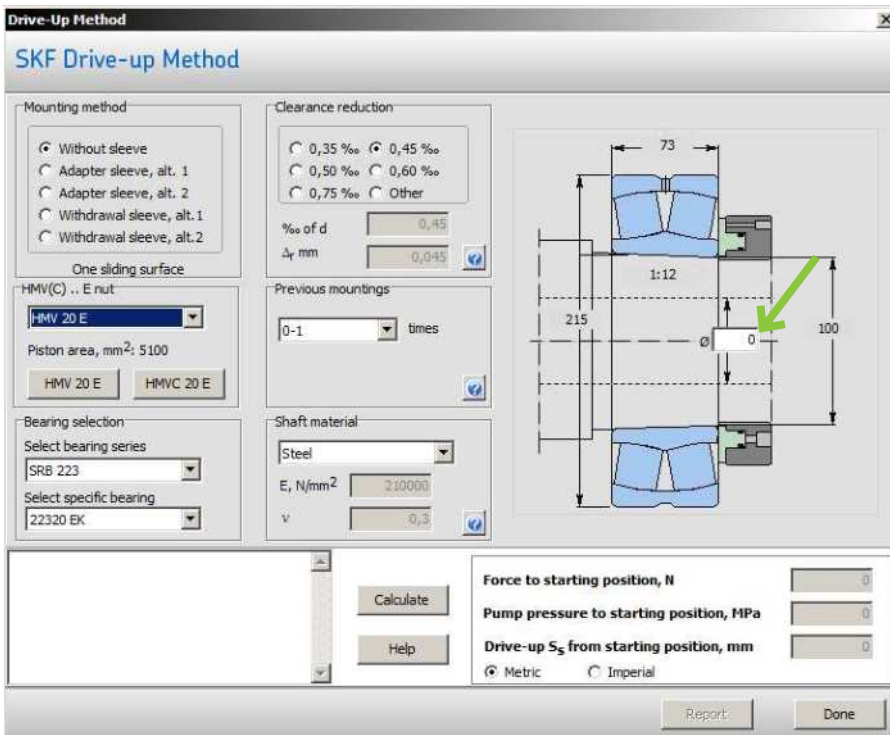
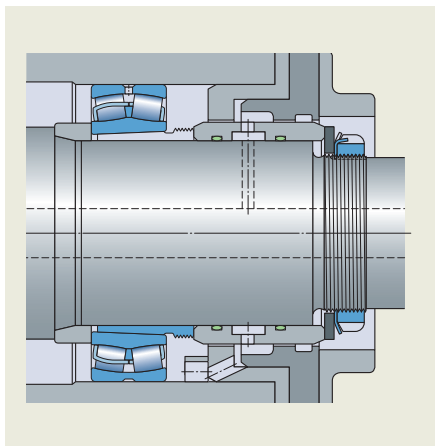

Fig 6: The field in the software to enter the shaft bore diameter
Fig 12: Hydraulic nut to push the withdrawal sleeve will be of much smaller size than the one proposed by default in the SKF Drive-up Method program
If the shaft has a bore, enter the bore diameter in the box indicated by the green arrow (see **figure 6**). Note that bores with diameters less than half of the outer diameter of the shaft under the bearing have very little influence. In such cases, I often leave the value as zero, except when doing a report.
Figure 6 shows the “Without sleeve” option. The bearing is mounted directly on a tapered seat and there is one sliding surface.
In the case of figures 6 and 10, the hydraulic nut can have different sizes depending on the shaft diameter on which the nut is positioned. I have seen several cases in which between bearing (or withdrawal sleeve) and nut, there is a spacer and the shaft diameter under the nut is smaller than the shaft diameter under the bearing (or under the sleeve). Figure 12, which shows a refiner arrangement, is one example. In that example, if the spacer between the nut and the withdrawal sleeve shown on the drawing is used, the starting position given by the Drive-up Method program might be wrong due to the friction of the spacer (with its O-rings) on the shaft. A tube with a bigger bore, centred so there’s no contact with the shaft, should replace the spacer during bearing drive-up.
- 3 Smoothing also has more influence when there are two sliding surfaces (see **figures 9, 10 and 11**) than when there is just one (see **figures 6 and 8**).